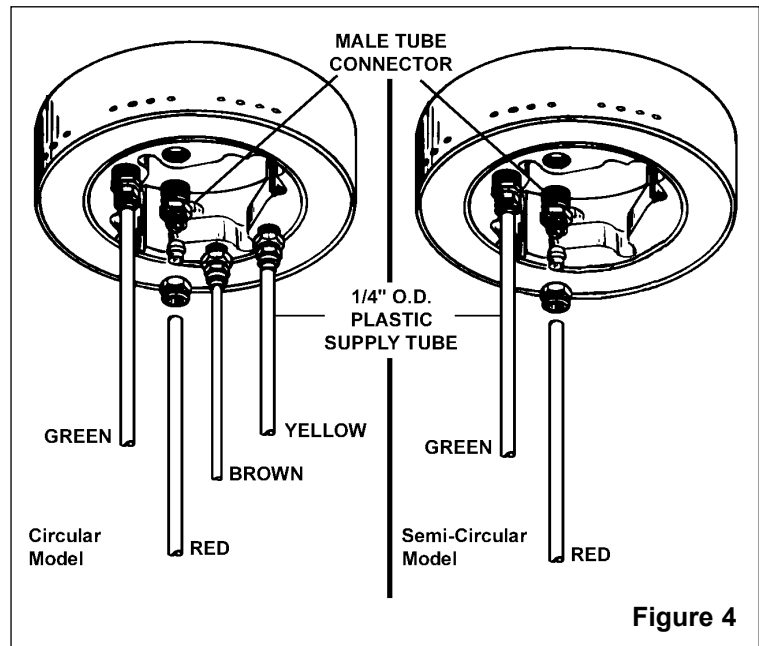

Figure 4
3. Install the male tube connectors into the sprayhead with pipe thread sealant (Figure 4).
4. Insert the 1/4" O.D. plastic supply tubes into the fittings as shown in Figure 4 and Figure 5 on page 5.